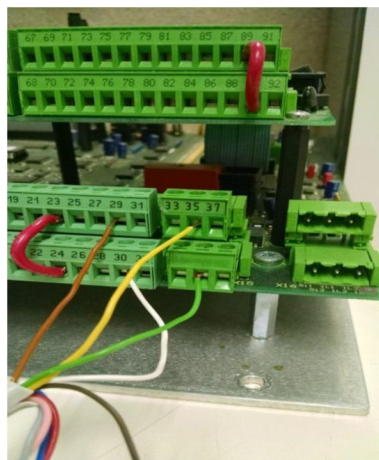

Figure 7
6. Wire the new encoder as follows: (See Figure 7).